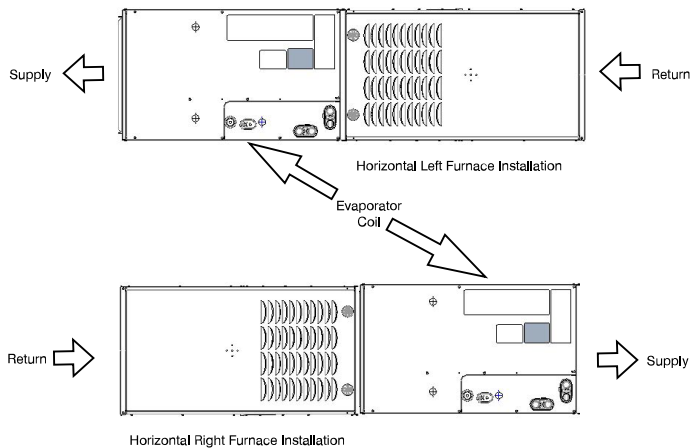
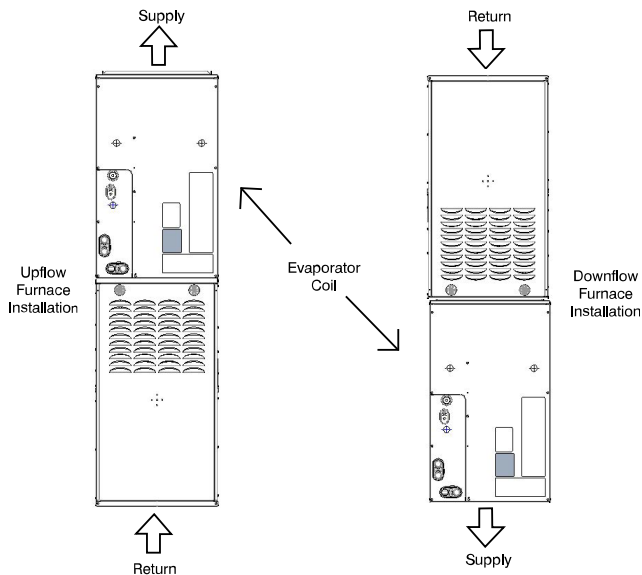

Fig. 1 – Typical Horizontal Coil Installation
Fig. 2 – Typical Vertical Coil Installation
1. Set coil in place on upflow furnace discharge air opening. See Fig. 1 and Fig. 2.